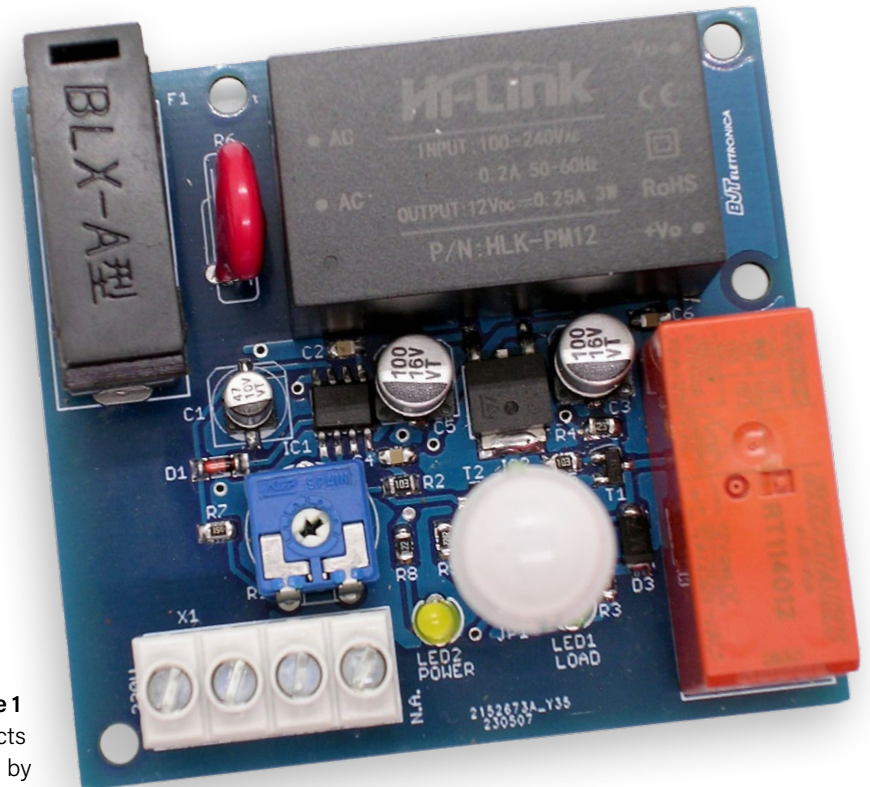

Figure 1: The finished prototype.
This passive infrared (PIR) switch project, shown in **Figure 1** as a finished prototype, uses a PIR sensor, which detects the non-visible infrared (IR) portion of the heat emitted by the human body. The sensor is mounted on a miniaturized HC-SR505 module, which includes the control electronics with a quiescent current of less than 50 μA . The sensing angle is 100°, and the maximum range is 5 m. The module has a digital output line with active (High) level of 3.3 V and Low level at 0 V.